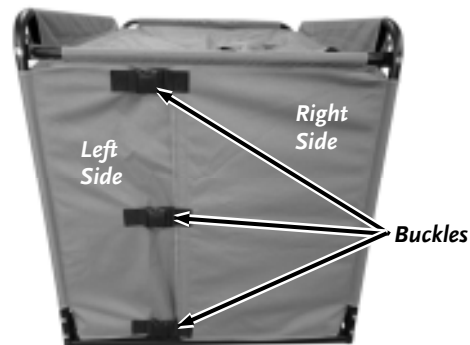

Figure 44
27. Separate the left and right side Doors by disconnecting the three Buckles (Figure 44).